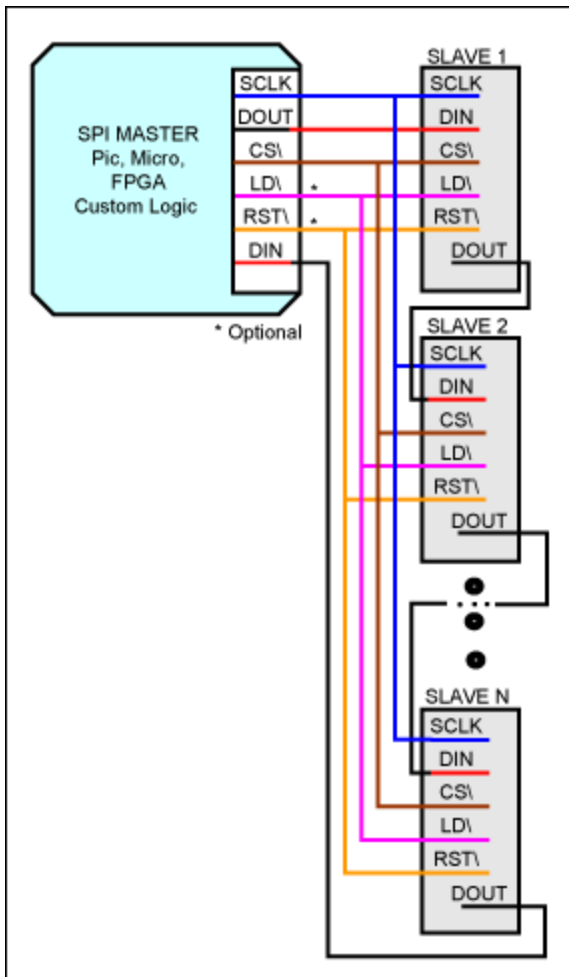

Figure 5. Single master and many slaves—daisy chain where one chip select controls all slaves.
2. One master and multiple slaves in daisy-chain topology, as shown in **Figure 5**.